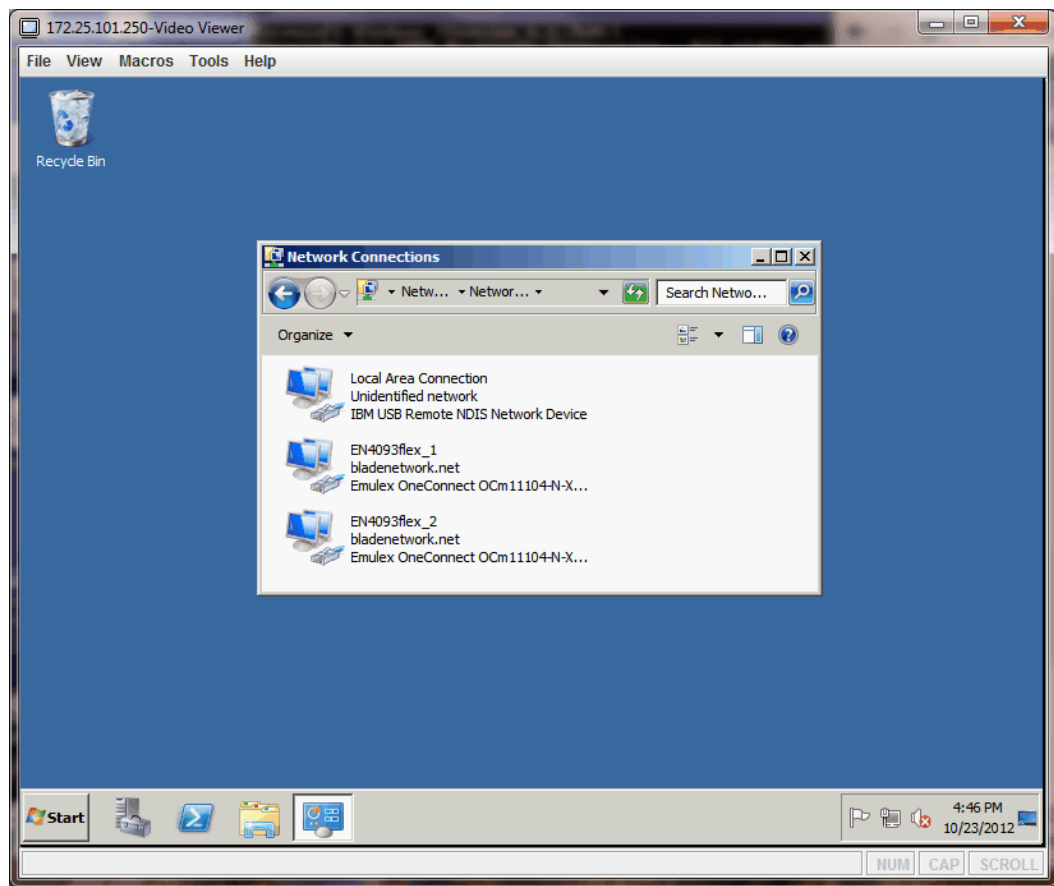

Figure 5-2 Emulex interfaces in Network Connections window
1. We begin by showing that our two Emulex NIC ports are active and operational from the perspective of Windows. Interfaces have been renamed to correspond with which upstream EN4093/EN4093R switch that we are connected to as a means of easy identification (Figure 5-2). Although renaming these adapters is optional, it does aid in problem identification if port settings on the EN4093/EN4093R need to be investigated.